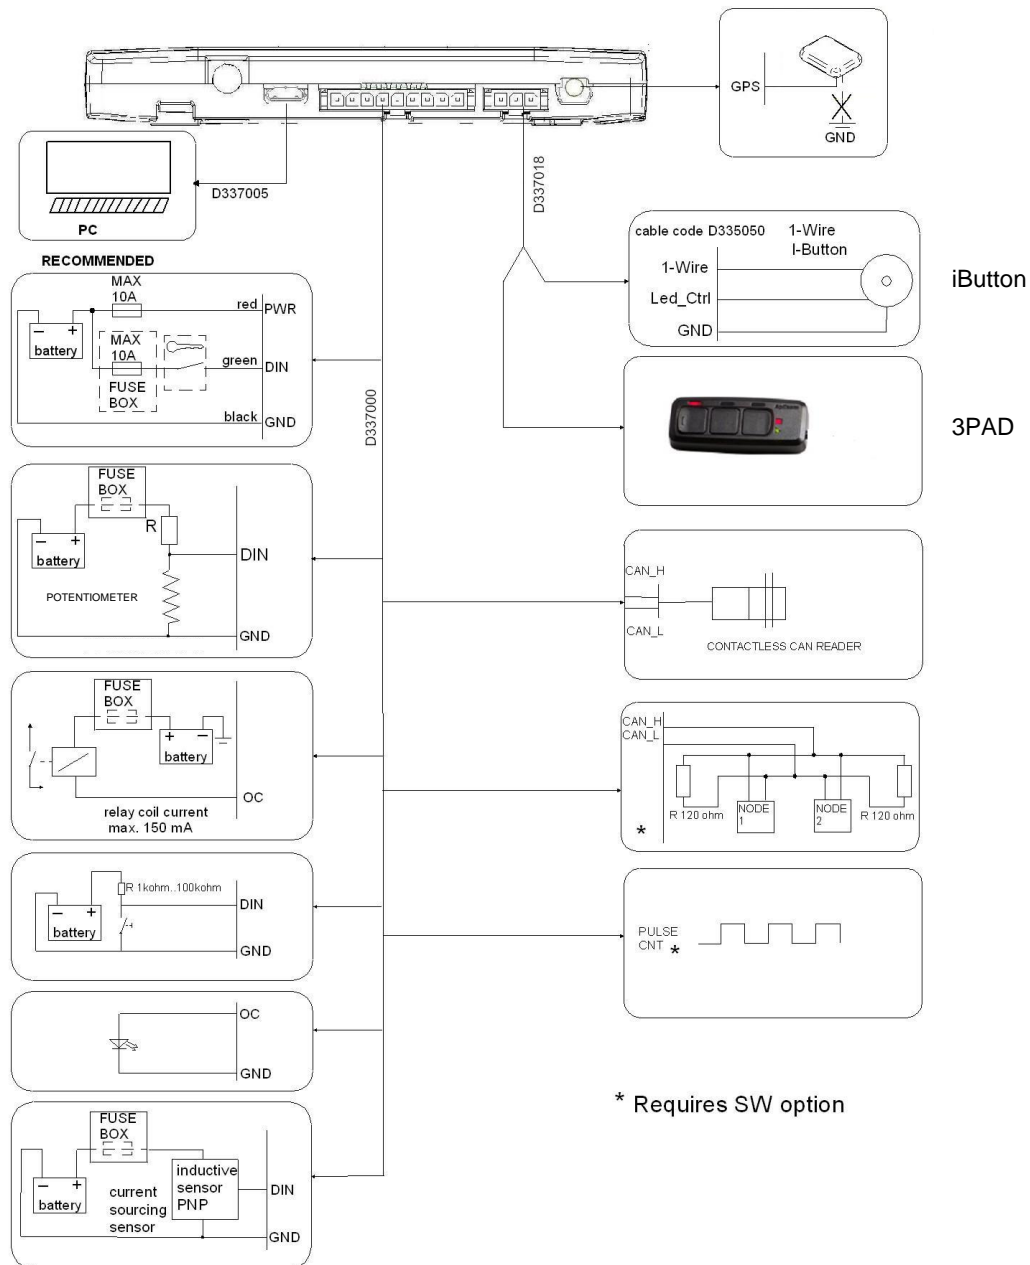

Figure 14. Connection guide
- Connect the cables to A9 PRO device and peripherals as advised in the connection guide. Figure 14.